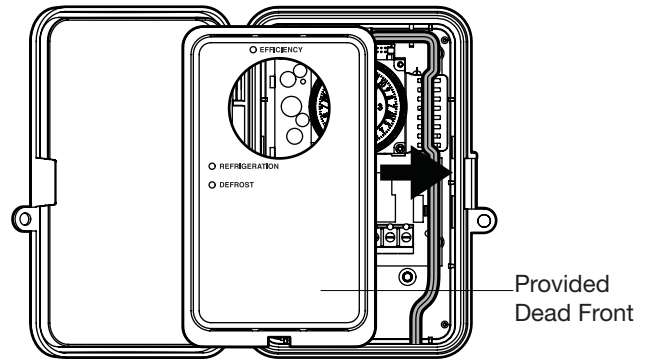

FIG. 10 Attach the Provided Dead Front
2. Snap the provided dead front cover into place, if applicable. See FIG. 10.